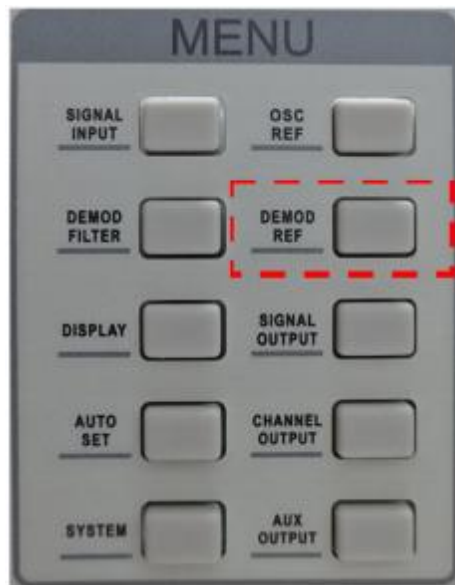

Figure 102. [DEMOD] Subunit Positioning
4. Press the front panel [DEMODO REF] button (shown in Figure 102) to access the submenu.